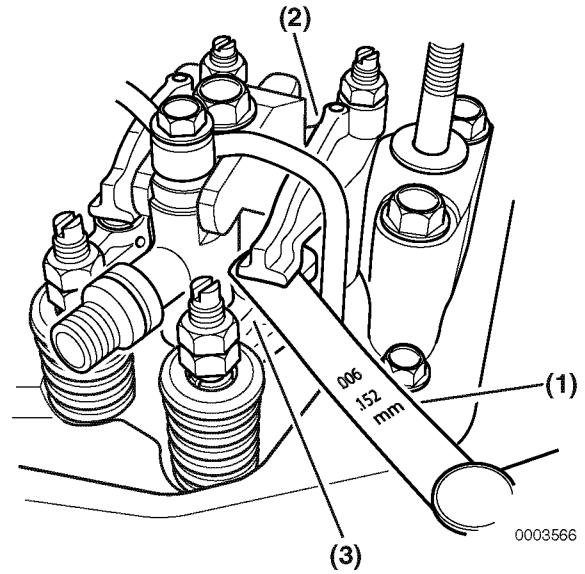

Figure 6-85
- To adjust the actual valve clearance between the rocker arm and the valve bridge, insert a feeler gauge (**Figure 6-85, (1)**) of the correct thickness (*See Adjustment Specifications on page 6-4*) between the rocker arm (**Figure 6-85, (2)**) and valve bridge (**Figure 6-85, (3)**). Record the results and use this value as an indication of wear.